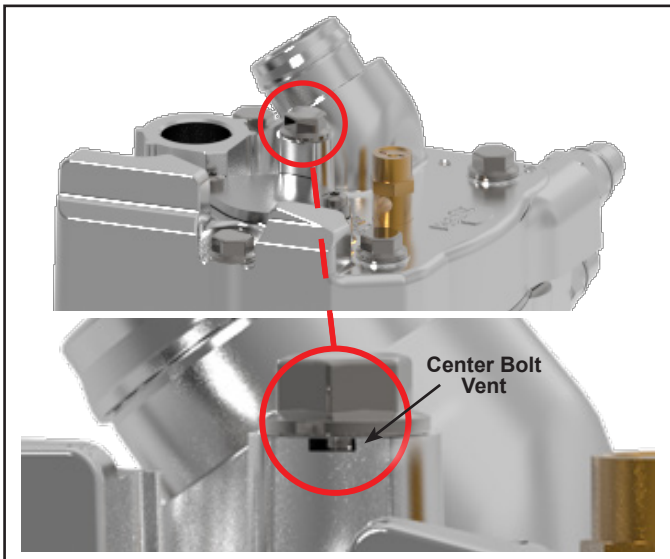

Figure 9 - Center Bolt Vent
3. Using shop air, pressurize the unloader port of the compressor. With the unloader port pressurized, listen for an audible leak near the center bolt of the compressor. Check for leakage at the unloader port. If leakage is present, replace leaking or worn o-rings. *See Figure 9.*